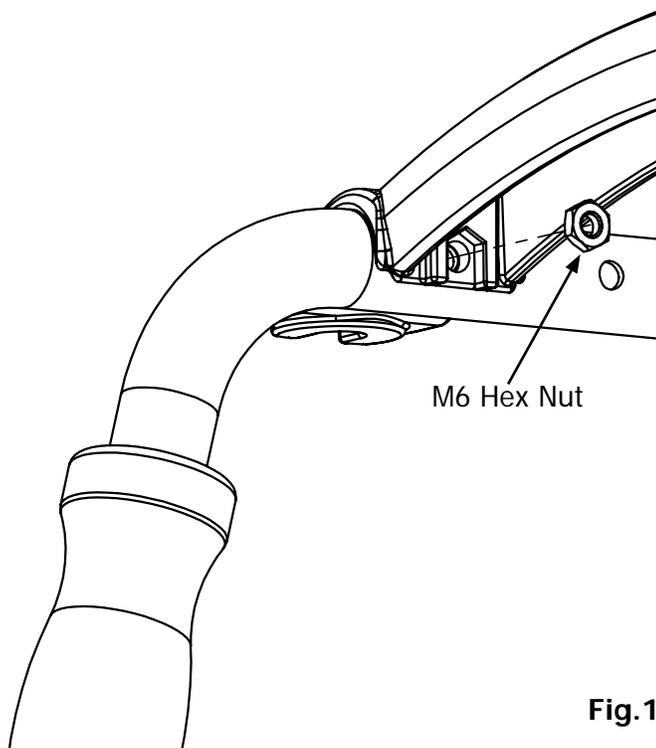

Fig.1-3
- 2 Place (2) M6 Hex Nuts on the inside of each Handle in the hex slot provided in the Handle Brace (see Fig.1-3).